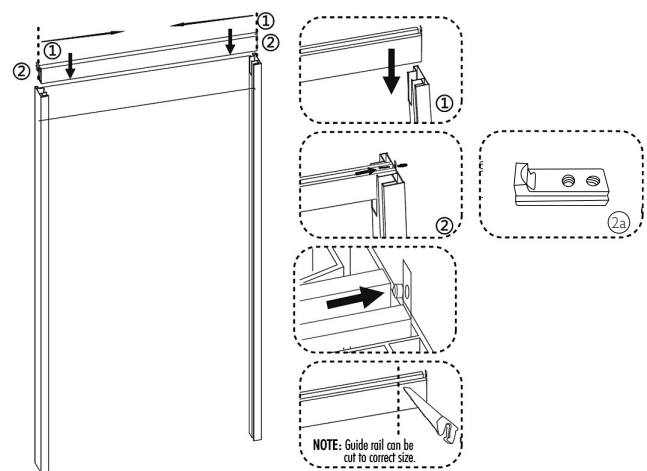

FIGURE 2
(See Figure 2). Place header in wall jamb slot (1). Measure and mark position of wall clip, then mount with screws (2).